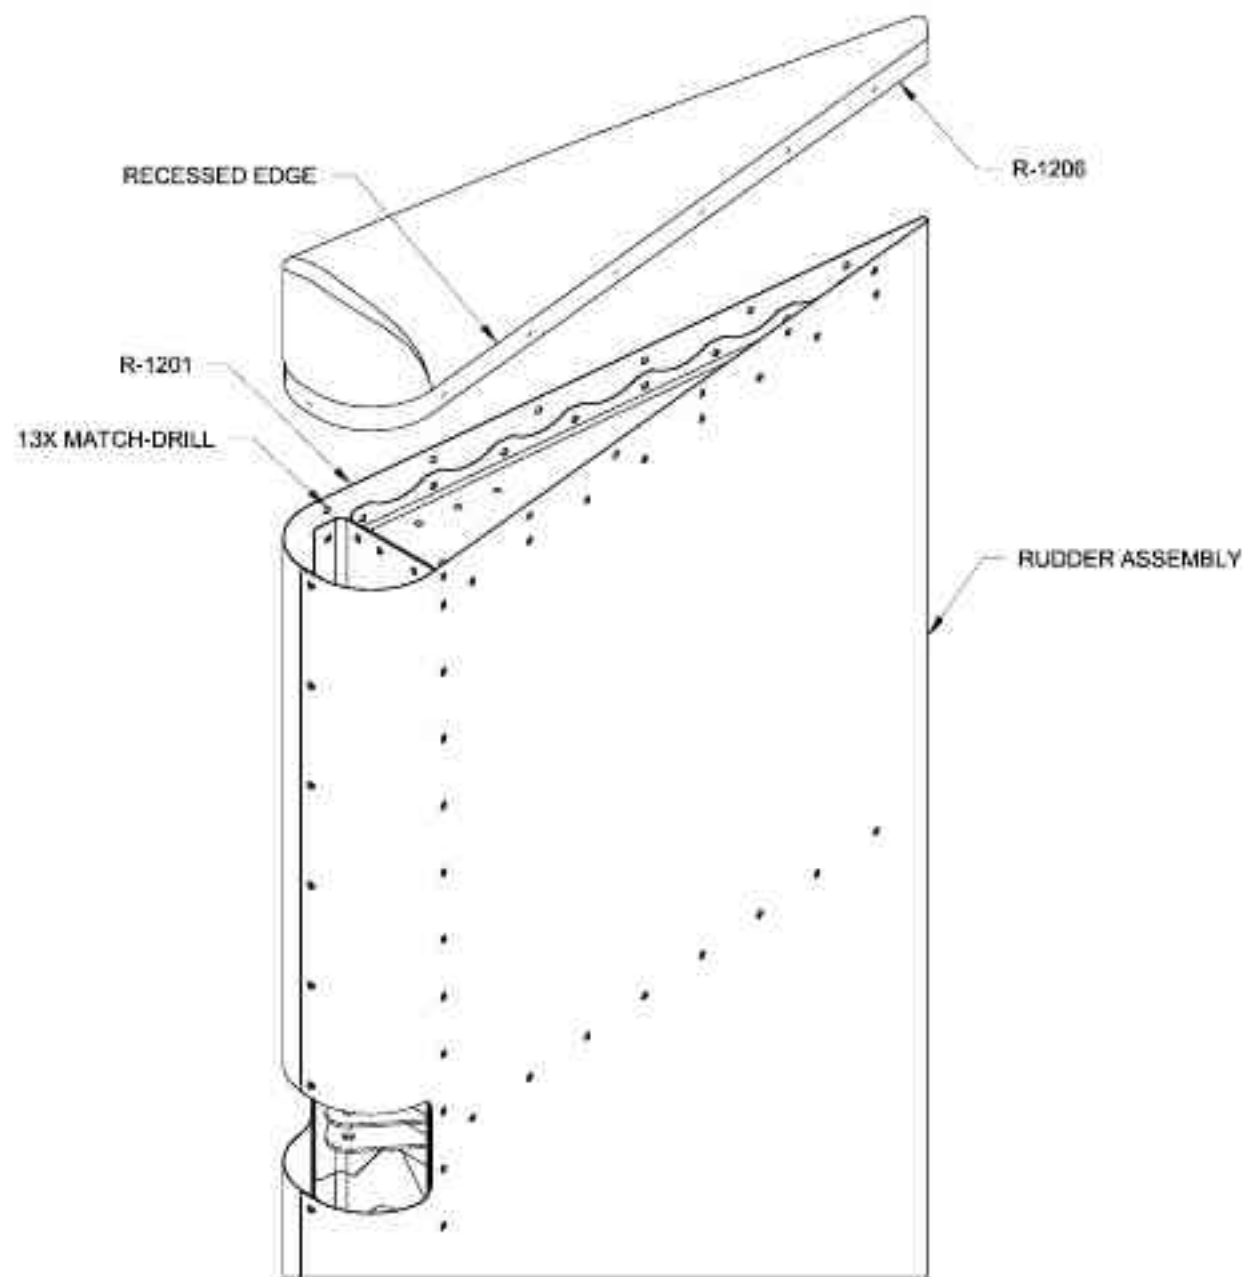

FIGURE 4:
Step 6: Match-Drill #30 the holes from the R-1201 into the R-1206 as shown in Figure 4. Deco each hole before drilling the next.